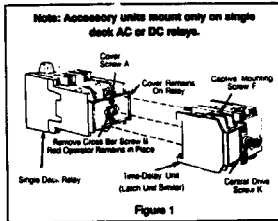

Figure 1
- 1.1 Remove and discard screw B from relay. Figure 1. Do not remove red operator or cover.
- 5.1 Remove and discard crossbar screw B from the relay. Figure 1. Do not remove red operator or cover.
- 8.3 Remove relay cover and red crossbar by loosening captive cover screws A. Figure 1.